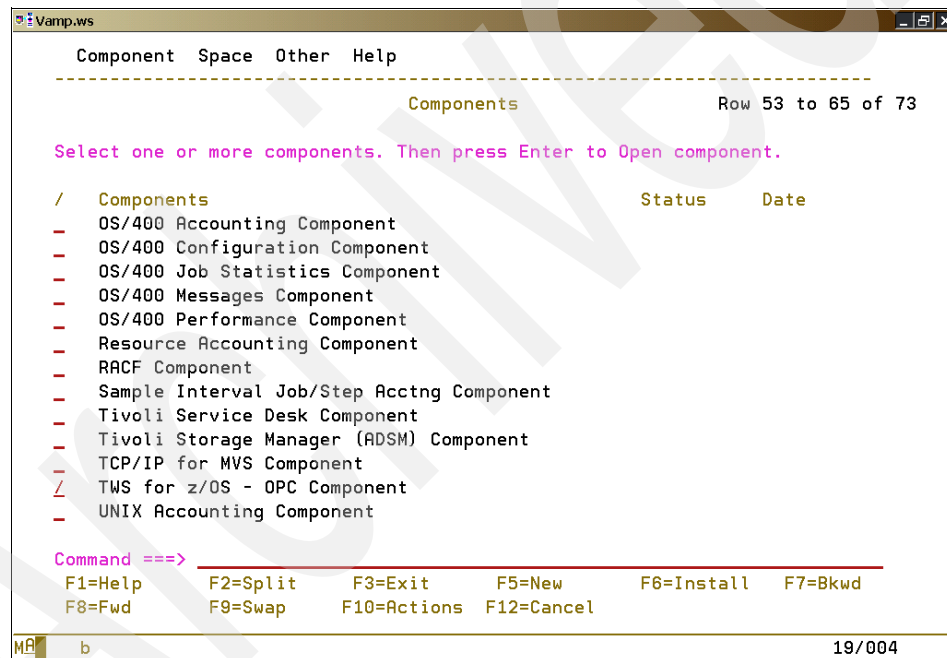

Figure 6-1 Selecting the component to install
3. Select the **TWS for z/OS - OPC Component** from the Components panel as shown in Figure 6-1.